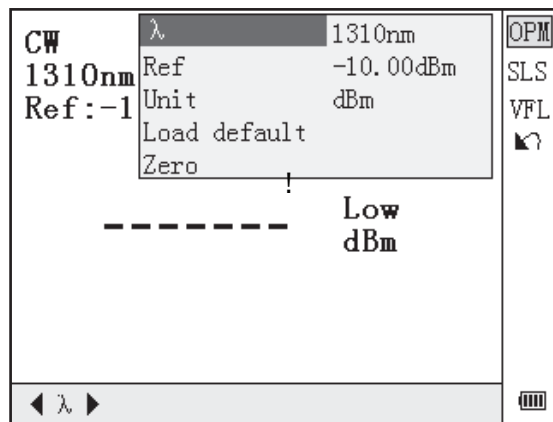

Figure 4-11. OPM Measurement Setting
2. Use ◀ and ▶ to toggle between calibrated wavelengths. Press **Enter** to enter OPM measurement setting interface (Figure 4-11).